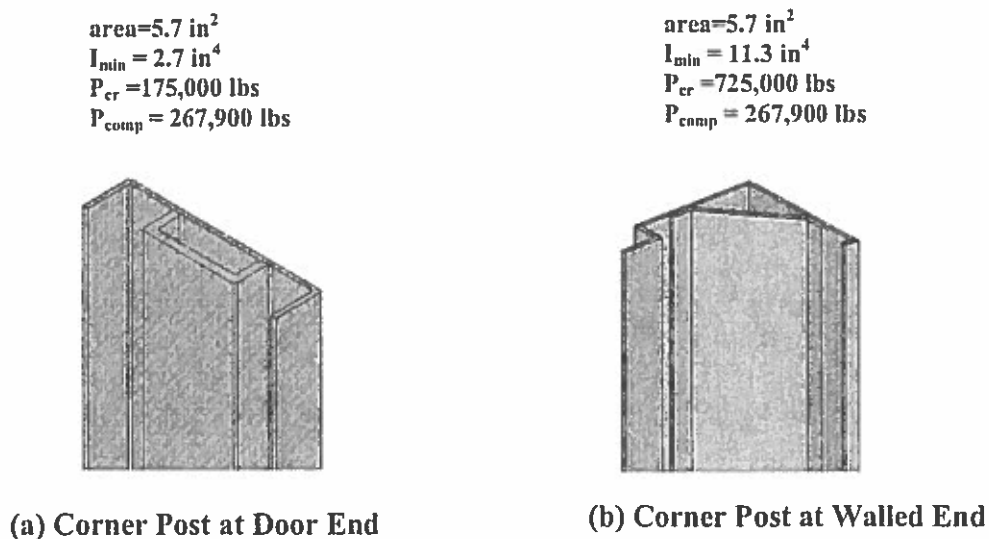
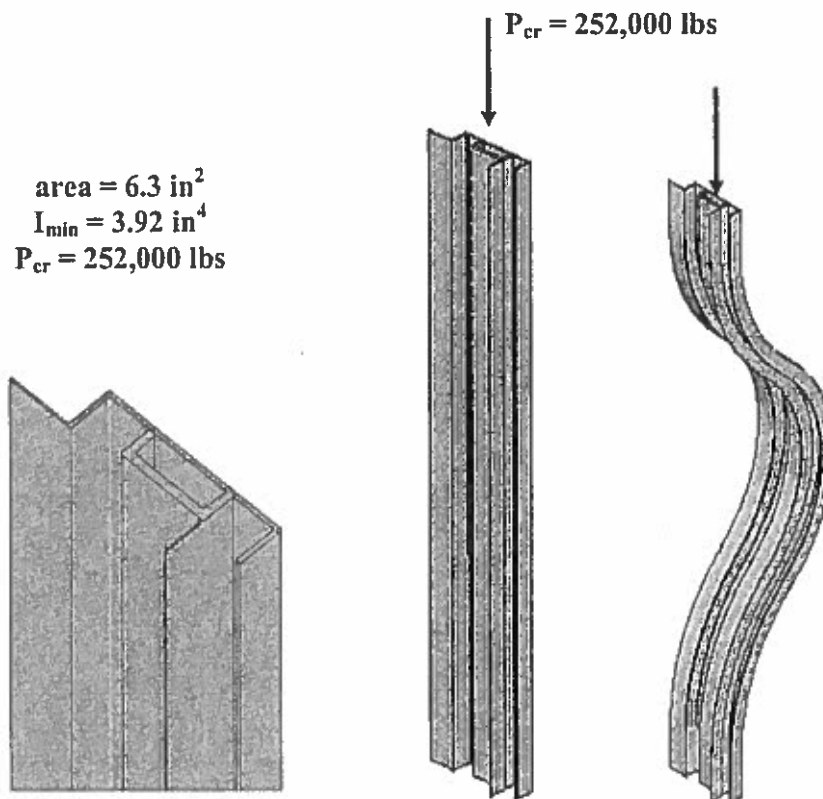

Figure 2. Corner Post Cross Sections – Properties and Load Capacities without Wall/Door Participation
Figure 3. Corner Post from Fig. 2(a) showing increase in buckling strength due to participation of wall
While the minimum performance of a corner post is standardized via ISO, the actual geometry of the post is not. Manufacturers have explored many different designs for many different types of containers, all of which will pass the ISO test load of 86,400 kg or 190,840 pounds. Figure 2 shows the most common corner post cross-sections at the door and walled ends of a Series 1 container. These posts are made of 6mm thick pressed steel shapes welded together along the length of the post. In the case of the door end post, a piece of hot rolled channel 113 x 40 x 10 mm is welded to the 6mm plate. Both posts in Figure 2 have adequate cross sectional area from the standpoint of compressive stress. However, the Door End post (a), has a collapse load which is less than the load required by the ISO standard, and therefore must rely on interaction with the walls and doors of the container to produce the necessary load-bearing capacity.
The effect of participation of the walls and doors is illustrated in Fig. 3 The profile of Fig. 2(a) has been used with a 3-inch wide strip of adjacent container sidewall (3.6 mm thick) and a 2-inch wide strip of door panel (2 mm thick), to form a column of considerably higher strength than the profile of Fig. 2(a) alone. The cross section shown, with walls, has a critical load of approximately 252,000 lbs, which is well above the 175,000 lbs of the corner post alone, and well above the 190,480 lbs required by the ISO Standard.
6. We have several specification documents from container vendors that stipulate a higher load capacity, but no details on just how this is accomplished by any container manufacturer via changes in the post configuration. We suspect that these vendors may just be taking advantage of a specification requiring a higher measured failure load as discussed in the preceding paragraph. After all, our post calculations for Figures 2(b) and Figure 3 indicate that these “standard” posts should easily pass a failure load test at 214,290 lbs vs. the original ISO test at 190,480 lbs.